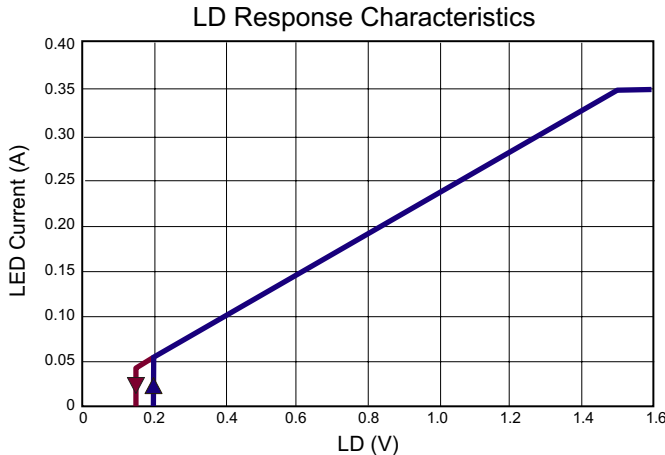

Fig.3. Typical linear dimming response of an HV9961 LED driver
When the voltage at LD falls below $1.5V$, the internal $275mV$ reference to the constant-current feedback becomes over-ridden by $V_{LD} \cdot 0.185$. As long as the current in the inductor remains continuous, the LED current is given by the equation (3) above. However, when V_{LD} falls below $150mV$, the GATE output becomes disabled. The GATE signal recovers, when V_{LD} exceeds $200mV$. This is required in some applications to be able to shut the LED lamp off with the same signal input that controls the brightness. The typical linear dimming response is shown in Fig.3.